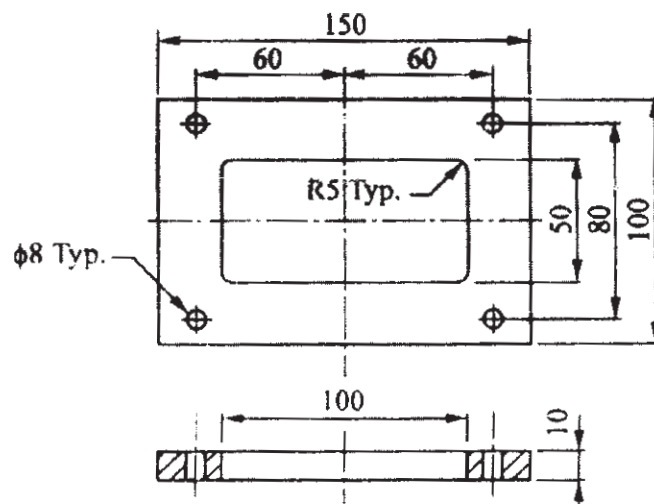

Figure 4
b) Write a CNC program in G and M codes for milling the slot of 50mm × 100mm for the part shown in the Figure 4 also write remark for each block. [8]